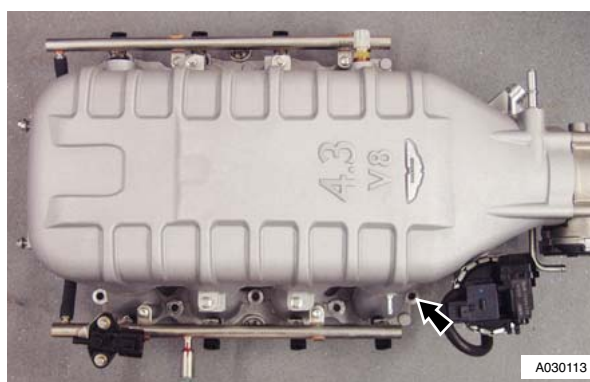

Figure 1
- Remove Injector to rail clips (x8) (see Figure 1).